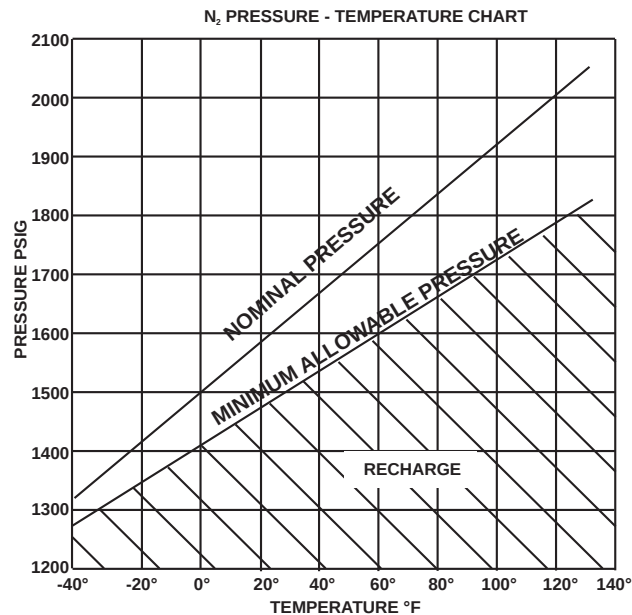

Figure 7-7. Nitrogen Temperature vs. Pressure Data
7. Open the valve and add additional nitrogen as necessary to obtain a full cylinder charge at ambient temperature (1800 PSIG at 70°F [124 bar gauge at 21°C]). Refer to Figure 7-7.